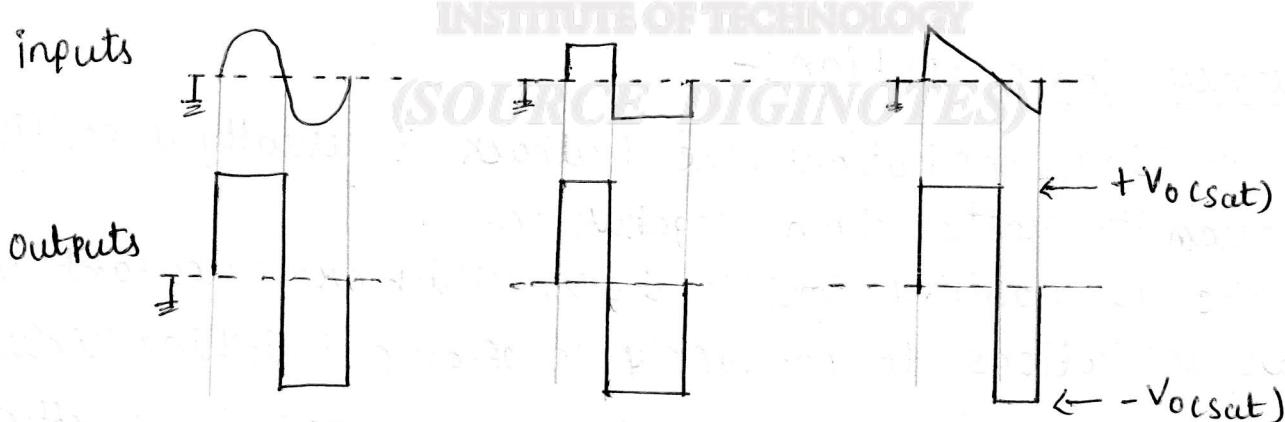

Fig. 1 (b) Input & output waveforms.
- Because the output voltage from the circuit in fig. 1(a) always moves in a positive direction when the input crosses zero from negative to positive, the circuit can